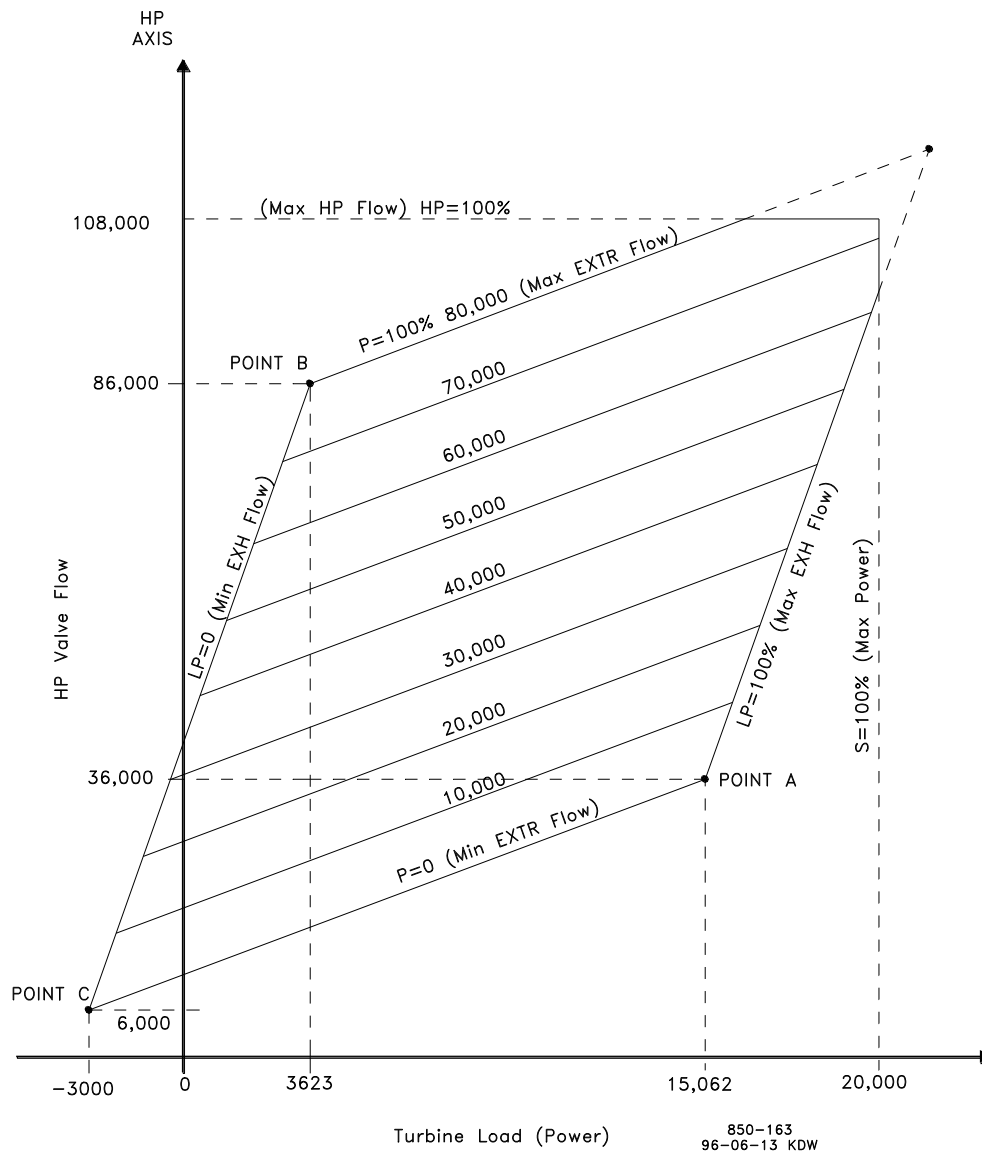

Figure 2-18. Typical Extraction Steam Map
The eight values needed can be taken from the converted steam map. As an example, the following data was derived, using the steam map below in Figure 2-18.
Before a turbine's admission steam map can be programmed into the control, it must have the intersection points A, B, & C (refer to Figure 2-18).
1. Extend the zero admission (or induction) line ( $p=100\%$ ). Refer to Figure 2-18.
The nine values needed can be taken from the converted steam map. An example has been provided using the steam map in Figure 2-18.